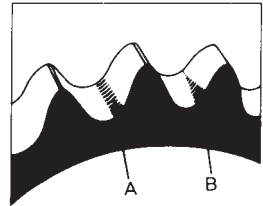

Figure 9-4: Areas to Check for Sprocket Wear
Chain and sprocket engagement can be checked by observing the roller and sprocket tooth surfaces. A proper margin (A) and improper margin (B) are shown in Figure 9-4. Installation should also be checked. Normal margin position is slightly above the tooth bottom. If tension remains on the slack side, the roller will touch the tooth bottom slightly. If an idler or tightener is used, the margin will be at the center of the tooth bottom.